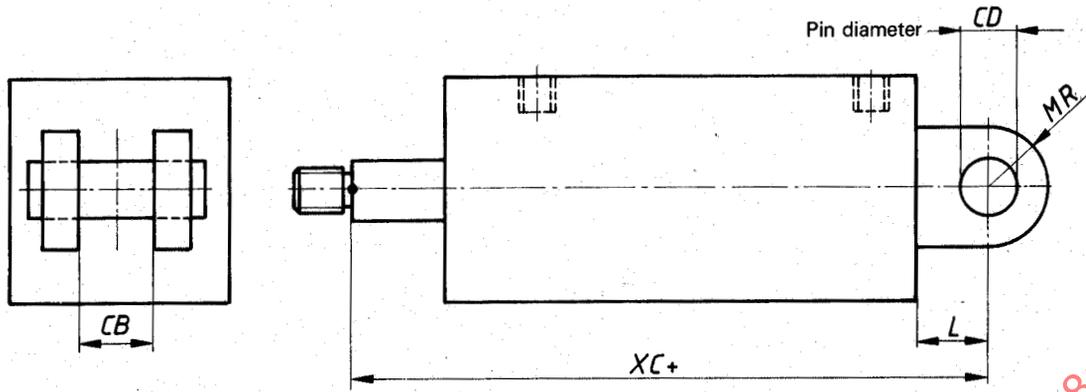

Figure 4 – MP1 – Cap fixed clevis mounting
- MP1 — Cap fixed clevis mounting (see figure 4 and table 4)